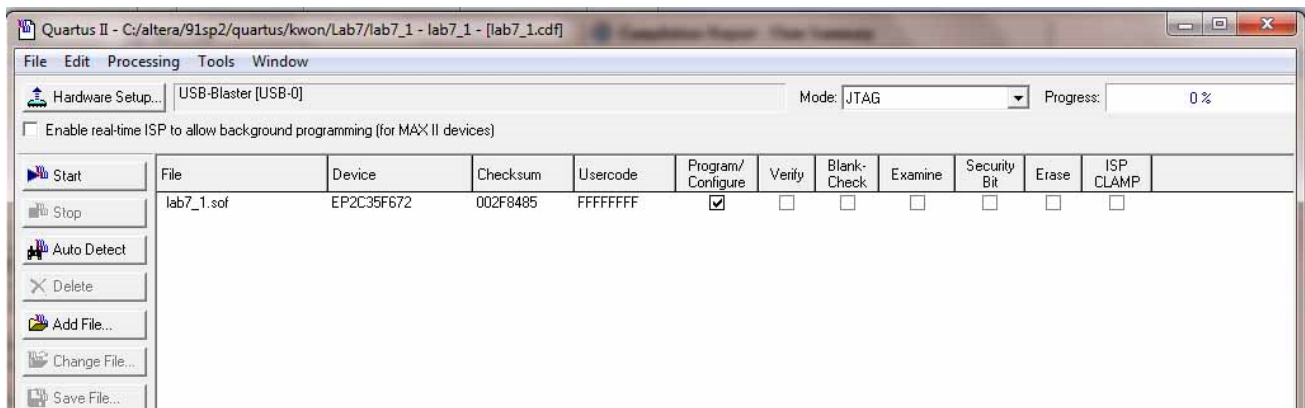

Figure 7-13
8. Now, press Start in the window in Figure 7-13. An LED on the board will light up when the configuration data has been downloaded successfully. If you see an error reported by Quartus II software indicating that programming failed, then check to ensure that the board is properly powered on.